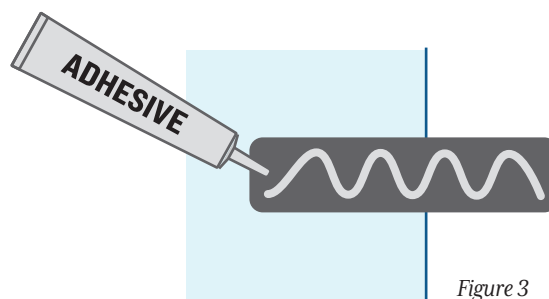

Figure 3
**5.** Once all brackets are in place, apply adhesive or silicone to the top of the bracket, (Figure 3).